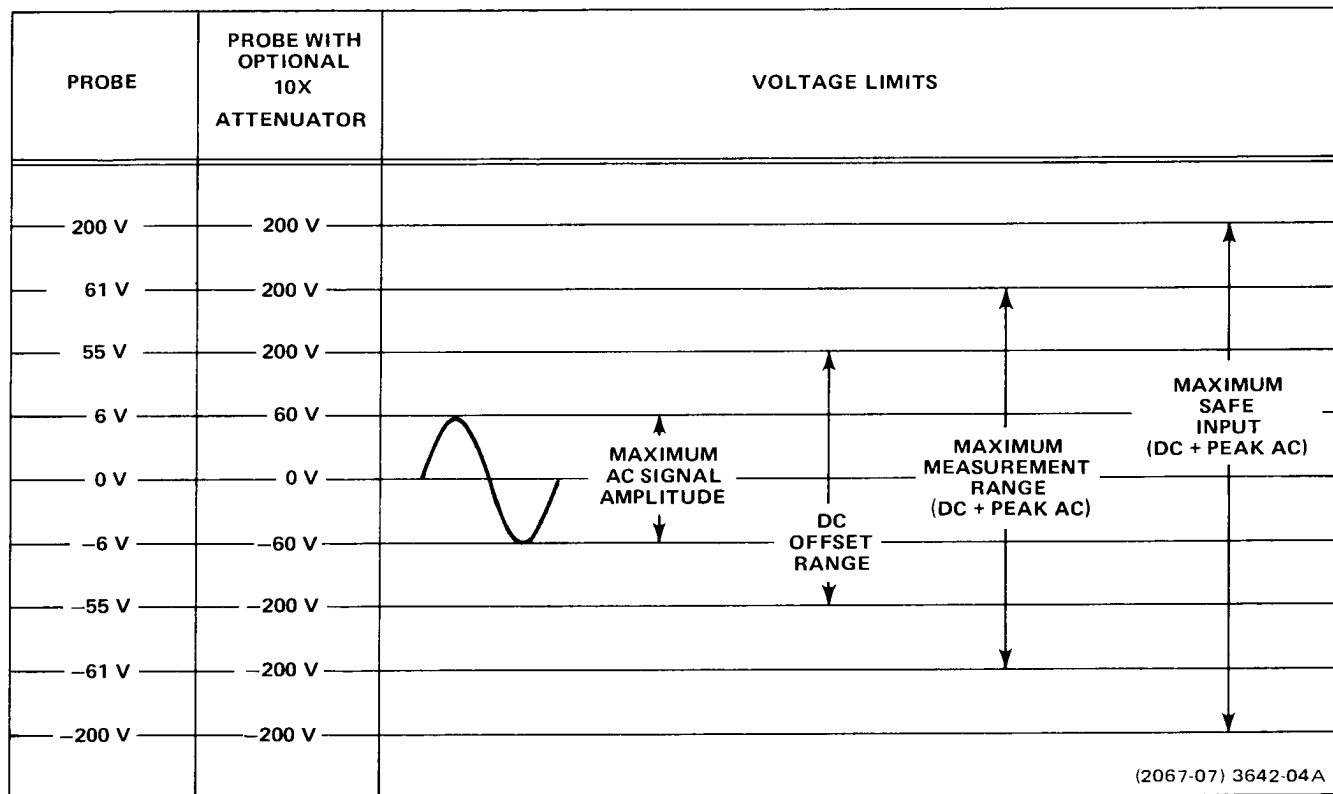

Figure 2-2. Dynamic and offset limitations (with or without optional 10X Attenuator).
The dynamic (signal) range for the P6202A Probe and the probe with optional 10X Attenuator is shown in Figure 2-2. Maximum signal capability for the probe alone is 12 V peak-to-peak. The signal can be offset  $\pm 55$  V to provide a maximum dynamic window of  $\pm 61$  V (dc + peak ac). If the signal you wish to measure exceeds these limits, use the
*The maximum nondestructive voltage limit of 200 V may exceed the limits of the dynamic window. For accurate measurements observe the dynamic range limits given in the preceding paragraph (see Figure 2-2).*